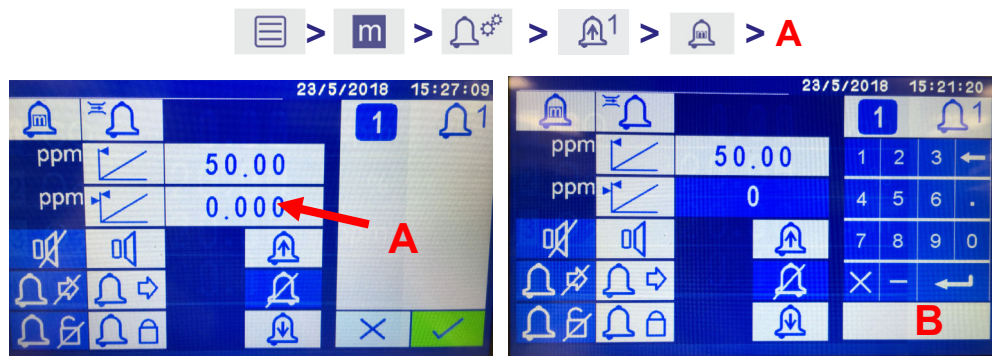

Figure 8-11: Alarm Hysteresis values set by pressing (A) and number key pad (B).
- 1. Touch the number to the right of the  icon as shown in Figure 8-11 A.
- 2. Use the number keypad shown in Figure 8-11 B to type in the threshold value.